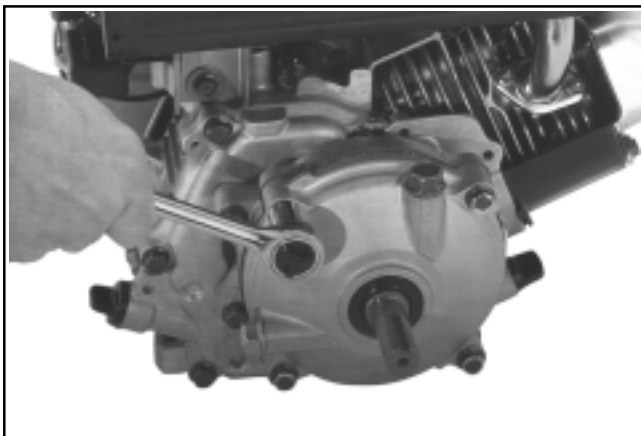

Figure 9-63. Loosening Reduction Housing Cover Screws.
2. Remove the four reduction cover mounting screws. Use a flat pan to catch oil when the screws are removed and the cover is separated. See Figure 9-63.